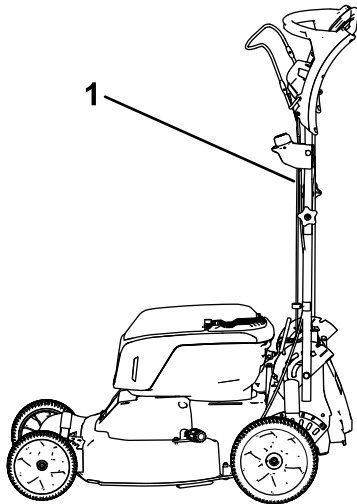

Figure 26
1. Lock the handle in the vertical position (Figure 26); refer to Adjusting the Handle Height (page 16).